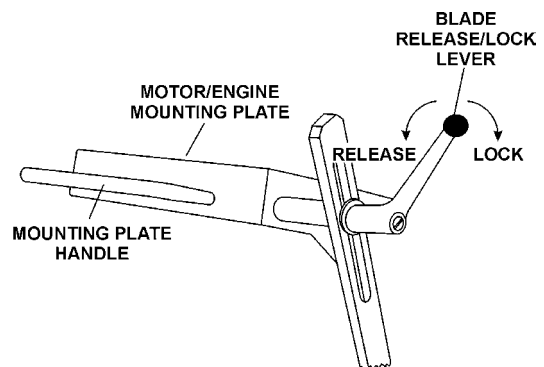

Figure 18. Mounting Plate Release/Lock Lever
2. Place the **mounting plate release/lock lever** (Figure 18) in the **release** position (pull back to release). When releasing the lock, hold on to the mounting plate handle to prevent the plate from rising rapidly, possibly causing the saw to become unstable. Let the plate raise **slowly**.